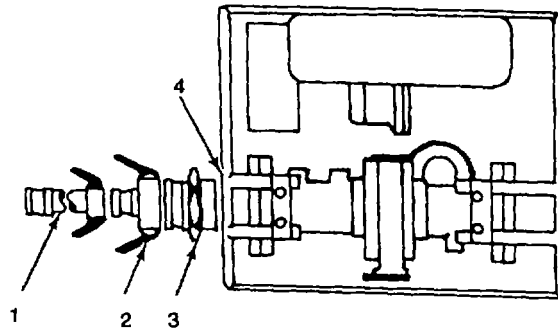

Figure 2-45. Discharge Hose Couplings and Hypochlorination Unit
- (1) Locate packing crate marked DISTRIBUTION POINT. Remove tubes of calcium hypochlorite (Item 2, Appendix E).
- (2) Wearing chemical resistant apron and gloves (Items 1 and 4, Appendix E), dissolve one tube in each gallon of potable water used to make a cleaning solution.
- (3) Remove drinking water storage bags from tripods. Disassemble tripods.
- (4) Scrub inside of each drinking water storage bag with solution.
- (5) Rinse each bag several times with potable water to get rid of all traces of cleaning solution. Do not use cleaning solution to rinse bags.
- (6) Dry bags completely and set aside.
- (7) Push cam arms on discharge hose (1, Figure 2-45) forward to open. Remove discharge hose (1) attached to male end of coupling half (2) of hypochlorination unit outlet port (4).